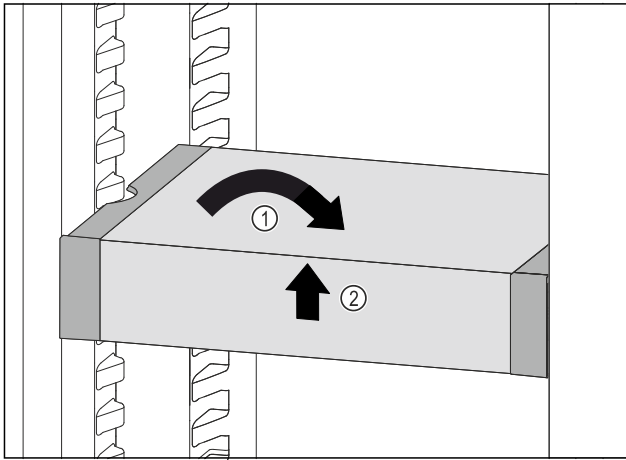

Fig. 136
- Set VarioSafe straight. Fig. 136 (1)
- Lift VarioSafe at the front. Fig. 136 (2)